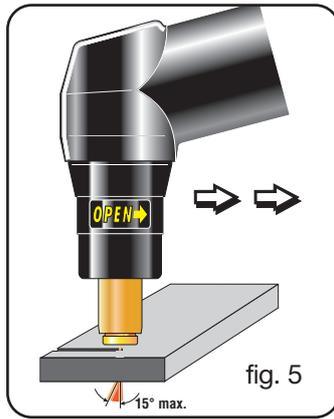

fig. 5
Cutting should be done by pulling the torch whenever possible: pulling is usually easier than pushing (see Fig. 5).
- high speed. Always make sure that the arc fully penetrates the workpiece and is never held at a forward angle of more than 10 -15°(see fig.5). This will avoid incorrect consumption of the nozzle and burns to the nozzle holder.